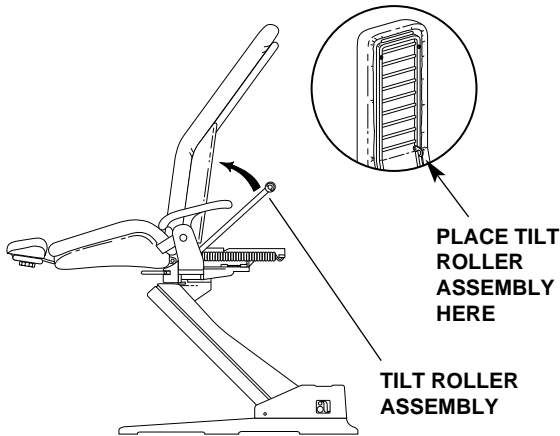

Figure 9. Left/Right Conversion Access
1. Lower the chair back, then disconnect the chair from the power source to prevent injury caused by accidental lowering of the chair. Lift the toeboard and secure the tilt roller assembly under the hook on the underside of the toeboard (see Figure 9). This will help support the toeboard. Place the armrests in their full down position.